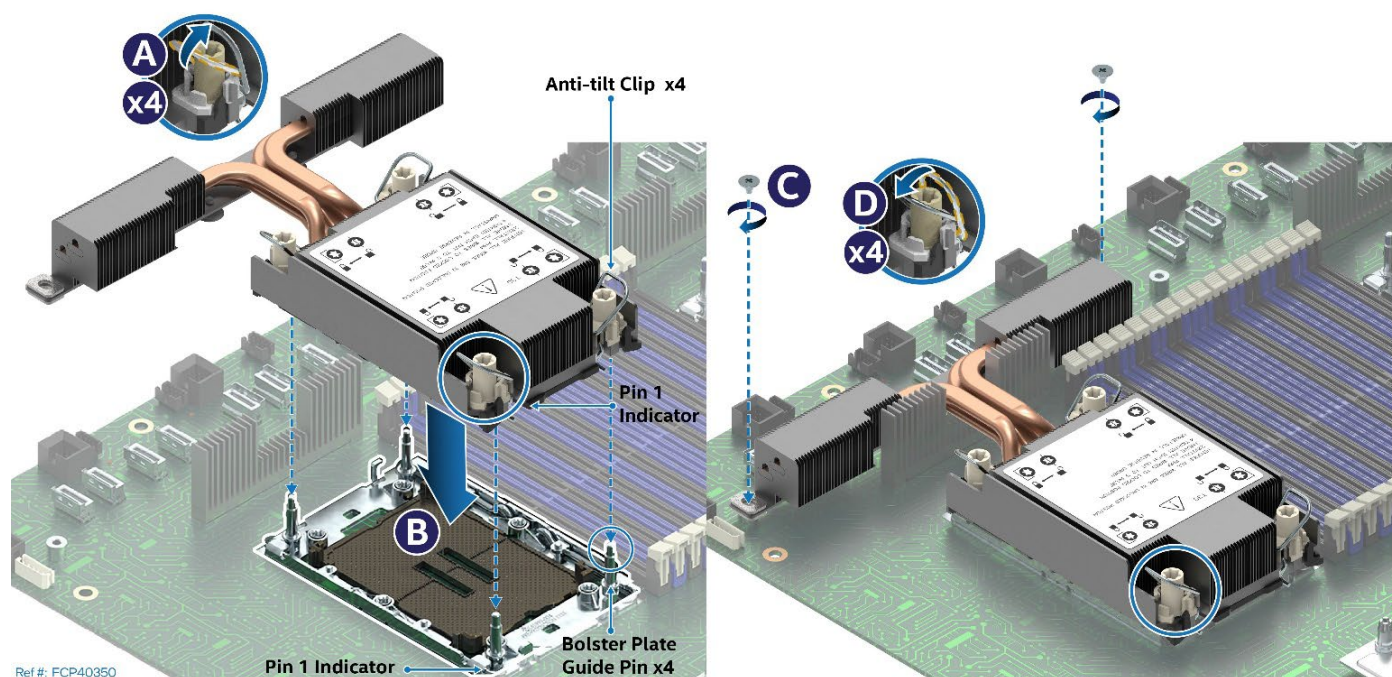

Figure 19. PHM Installation onto Server Board
1. Set all four anti-tilt wires on the heat sink to the inward position (see Letter A in Figure 19).
4. Set all four anti-tilt wires on the heat sink to the outward position. See Letter D in Figure 19.
5. (EVAC Heat Sink Only) Using a Phillips #2 screwdriver, tighten the heat sink extension screws. See Letter C in Figure 19.